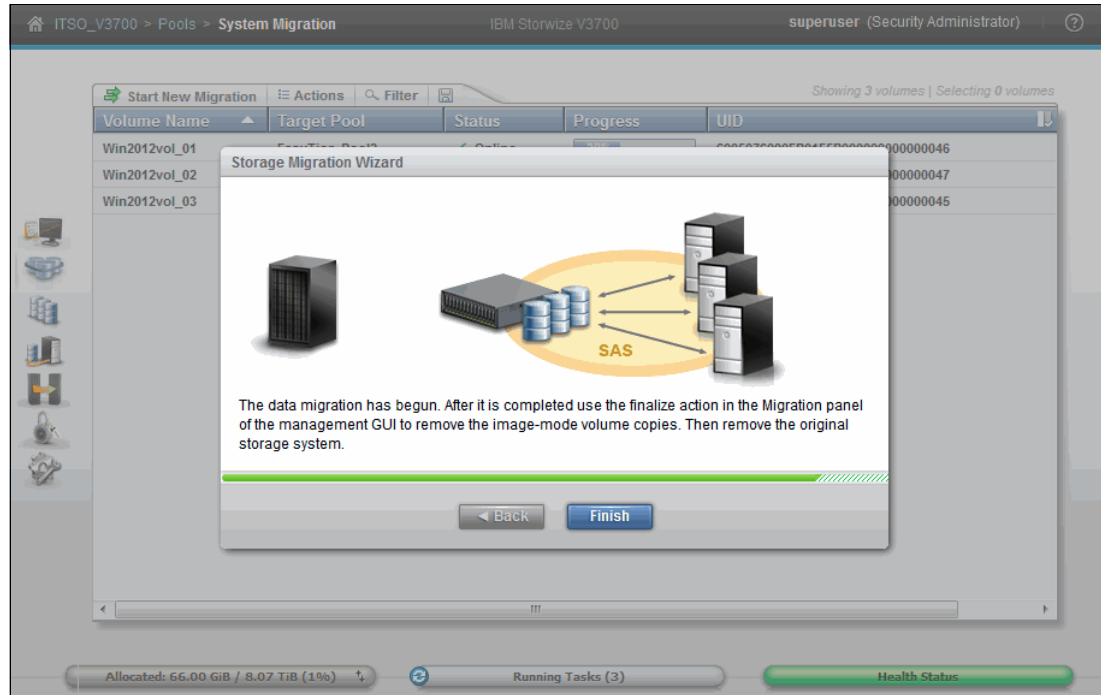

Figure 6-61 Finishing the data migration wizard
1. Click **Finish** to end, as shown in Figure 6-61.